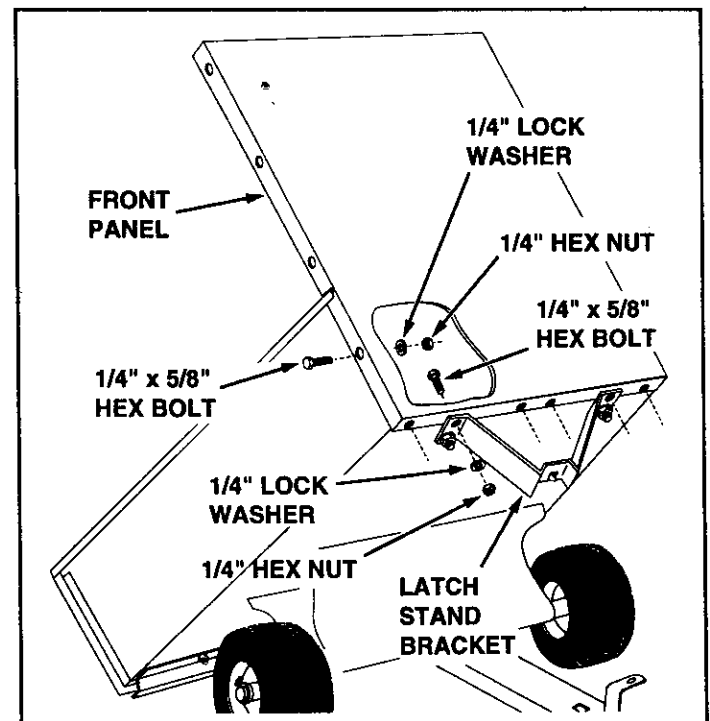

FIGURE 11
- Release the latch lock lever and tilt the cart bed back. See figure 11.
- Assemble the front panel to the outside of the cart bed, sliding the bottom lip of the panel in between the cart bed and the latch stand bracket. Fasten the panel to the bottom and the sides of the cart bed using eight 1/4" x 5/8" hex bolts, 1/4" lock washers and 1/4" hex nuts. **Tighten.** See figure 11.